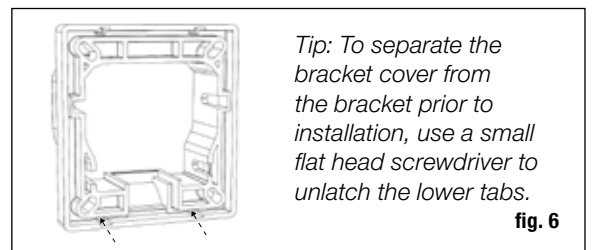

fig. 6
**Step 8** Separate the bracket covers from the brackets (fig.6).